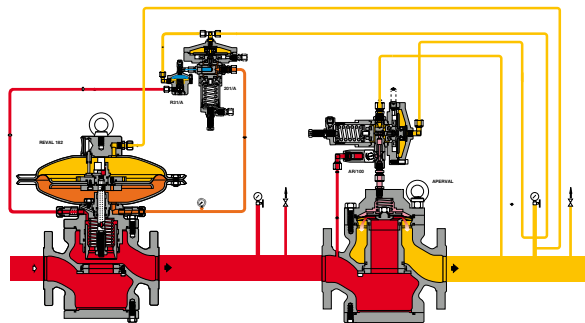

Fig. 6
- > Reval 182 pressure regulator (fig.6),